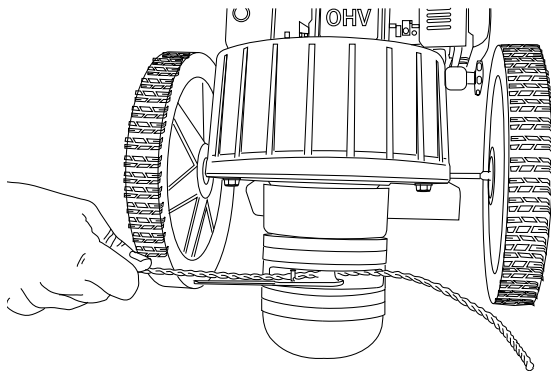

Figure 8
1. Insert the ends of the cord into the side opening in the line plate (Figure 8), and pull the cord through.